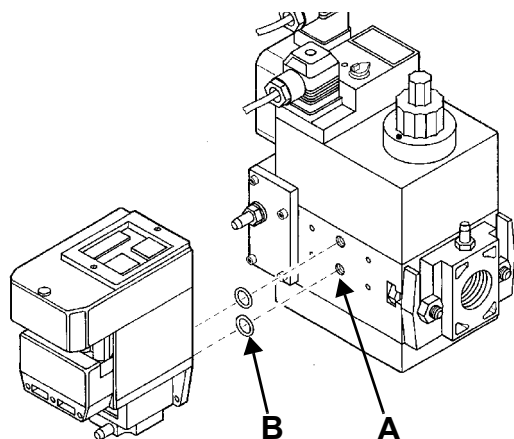
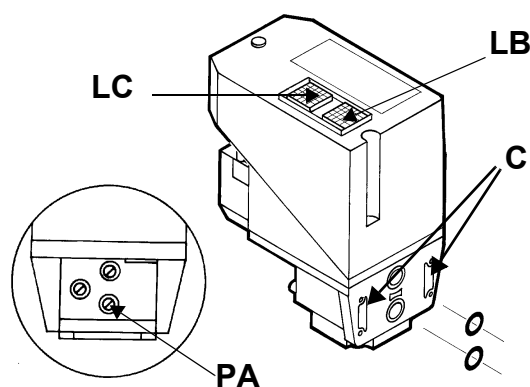

Fig. 7
Fig. 8
3. remove the Multibloc's screw plugs (Fig. 7-A);
4. insert sealing rings (10,5 x 2,25) into VPS 504 (Fig. 8-B, Fig. 7-B)
5. Torque screws 3, 4, 5, 6 (M4 x16) Fig. 7-C
When wishing to monitor the test, install a pressure gauge ranged to that of the pressure supply point **PA** (Fig. 8). If the test cycle is satisfactory, after a few seconds the consent light **LC** (yellow) comes on. In the opposite case the lockout light **LB** (red) comes on. To restart it is necessary to reset the appliance by pressing the illuminated pushbutton **LB**.